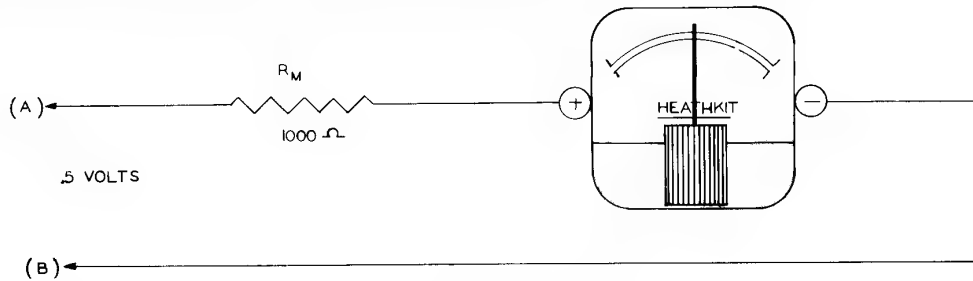

Figure 3-2
The next question that comes to mind is where will the pointer be if only 1/2 volt (.5 volt) is present between points (A) and (B)? See Figure 3-2.